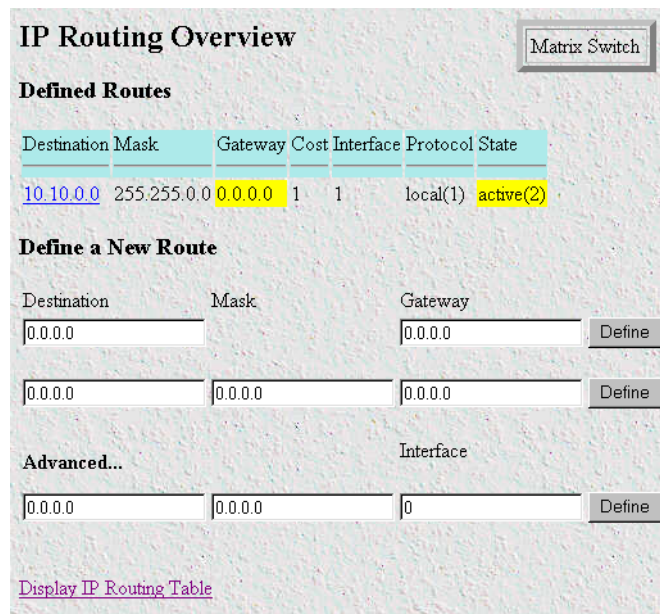

Figure 31. IP Routing Overview page
2. Click the *Routing Info* hyperlink to open the **IP Routing Overview** page (figure 31).